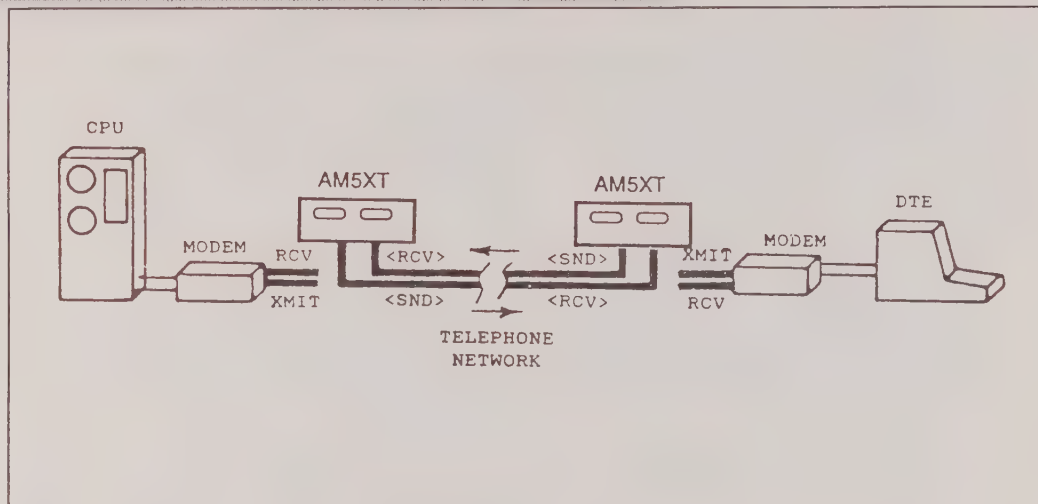

Figure 5-4. 4-Wire End-to-End Testing.
End-to-End Testing (Fig. 5-4). Measurements on telephone transmission lines are usually made by applying an appropriate signal at one end of the transmission line and then measuring the results at the other end of the line. This configuration requires a test set at each end of the line and is called "end-to-end" testing. Fig. 5-4 shows a 4-wire end-to-end configuration, making measurements over a telephone network that normally connects two (2) modems. Each AM5XT/eXT both sends and receives signals, sending a signal over the *TX* pair of lines, and measuring the signal received over the *RX* pair of lines.